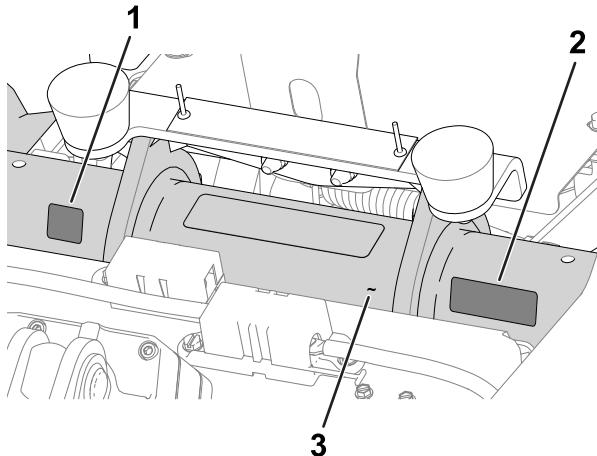

Figure 11
- **Production year decal and CE mark decal:** apply the decals on the frame tube below the seat and serial plate; refer to Figure 11.